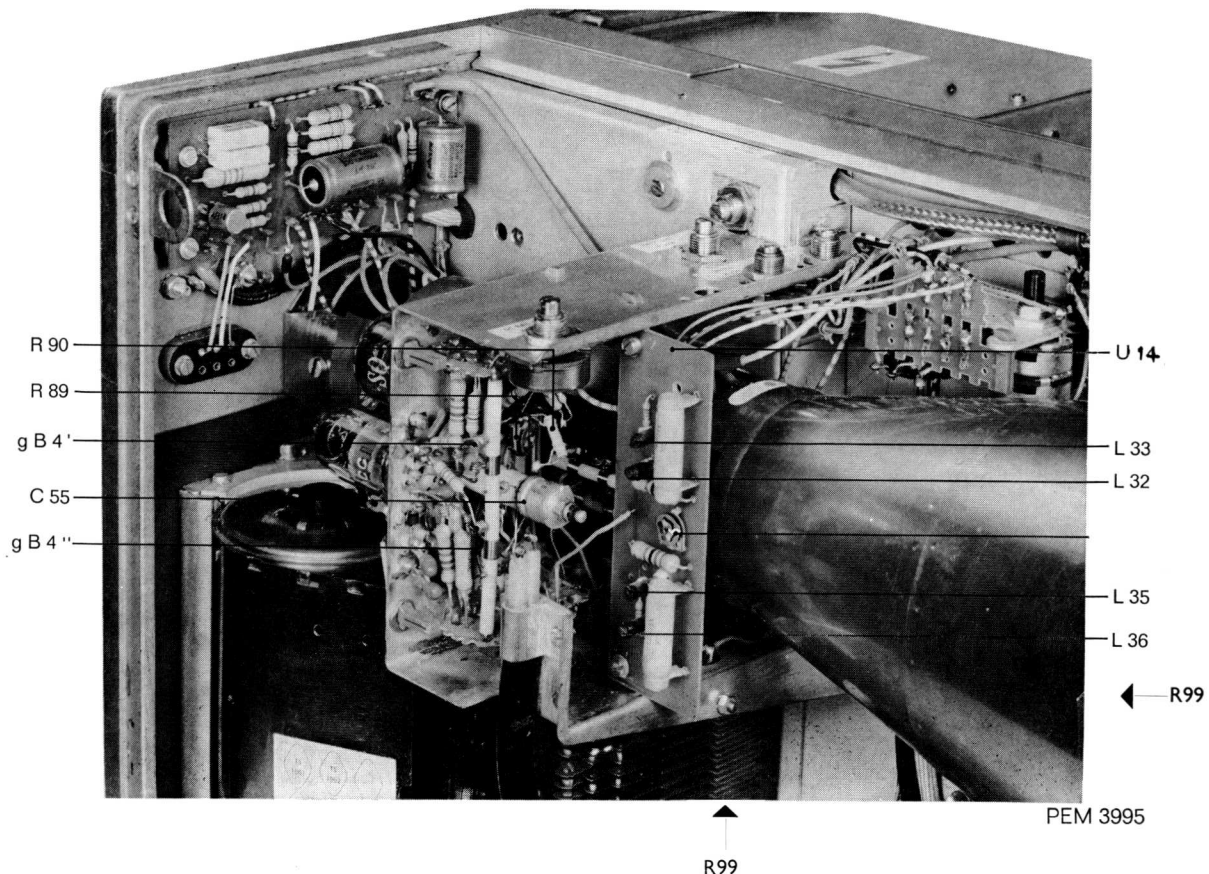

Fig. 55. Close-up of the final stage of the Y-amplifier (U14)
### R 99 (Fig. 55)
#### R89 (Fig. 55)
**C55–L32–L33–L35–L36–R75–R90 (Fig. 55)**
- Simultaneously adjust C55 and R75 (Fig. 55) to a minimum rise-time ( $\geq 6$  nsec.) and a flat top of the squarewave. The influence of C55 can be restricted or increased by changing the value of R90 (Fig. 55). The transition between the leading edge and the flat top of the display can be squared and flattened out by C33 and R53.